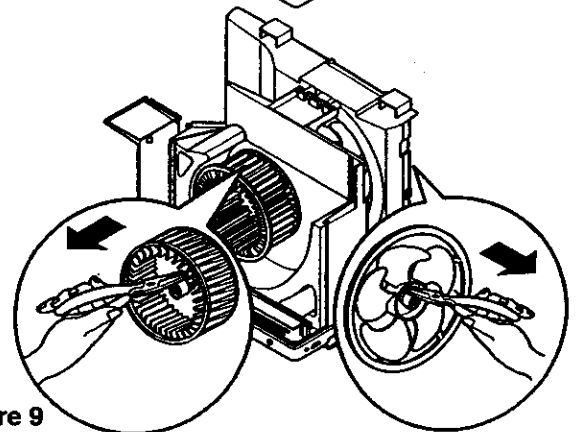

Figure 9
11. Remove the clamp springs which are clamped to the boss of fan and blower wheel by hand plier. (See Figure 9)